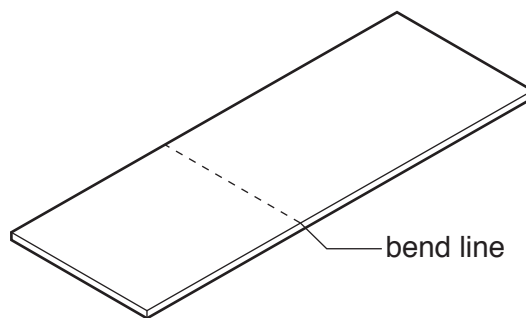

Fig. 8
- (b)** Fig. 8 shows one bookend marked out ready to be bent to shape.